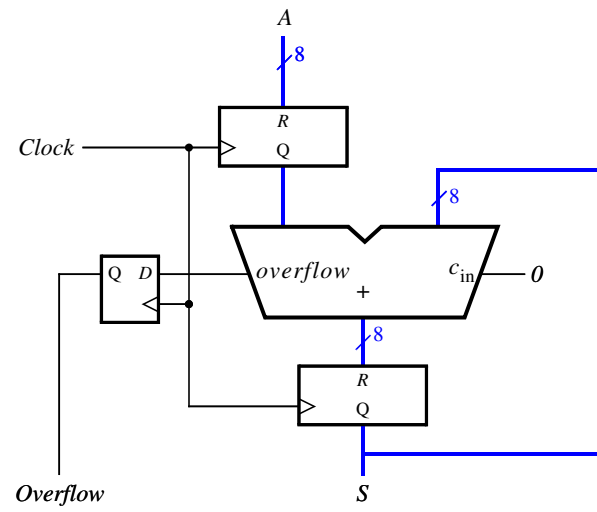

Figure 2: An eight-bit accumulator circuit.
The curly braces in the example above (`{ }`) are used to implement *concatenation*. Use this construct to implement the circuit shown in Figure 2. Here the carry bit is used to signify when an overflow has occurred, i.e., that the value of the result cannot be represented as an 8-bit number so that the resulting value at  $S$  is incorrect.
2. Write Verilog code that describes the circuit in Figure 2. You are encouraged to use procedural Verilog.